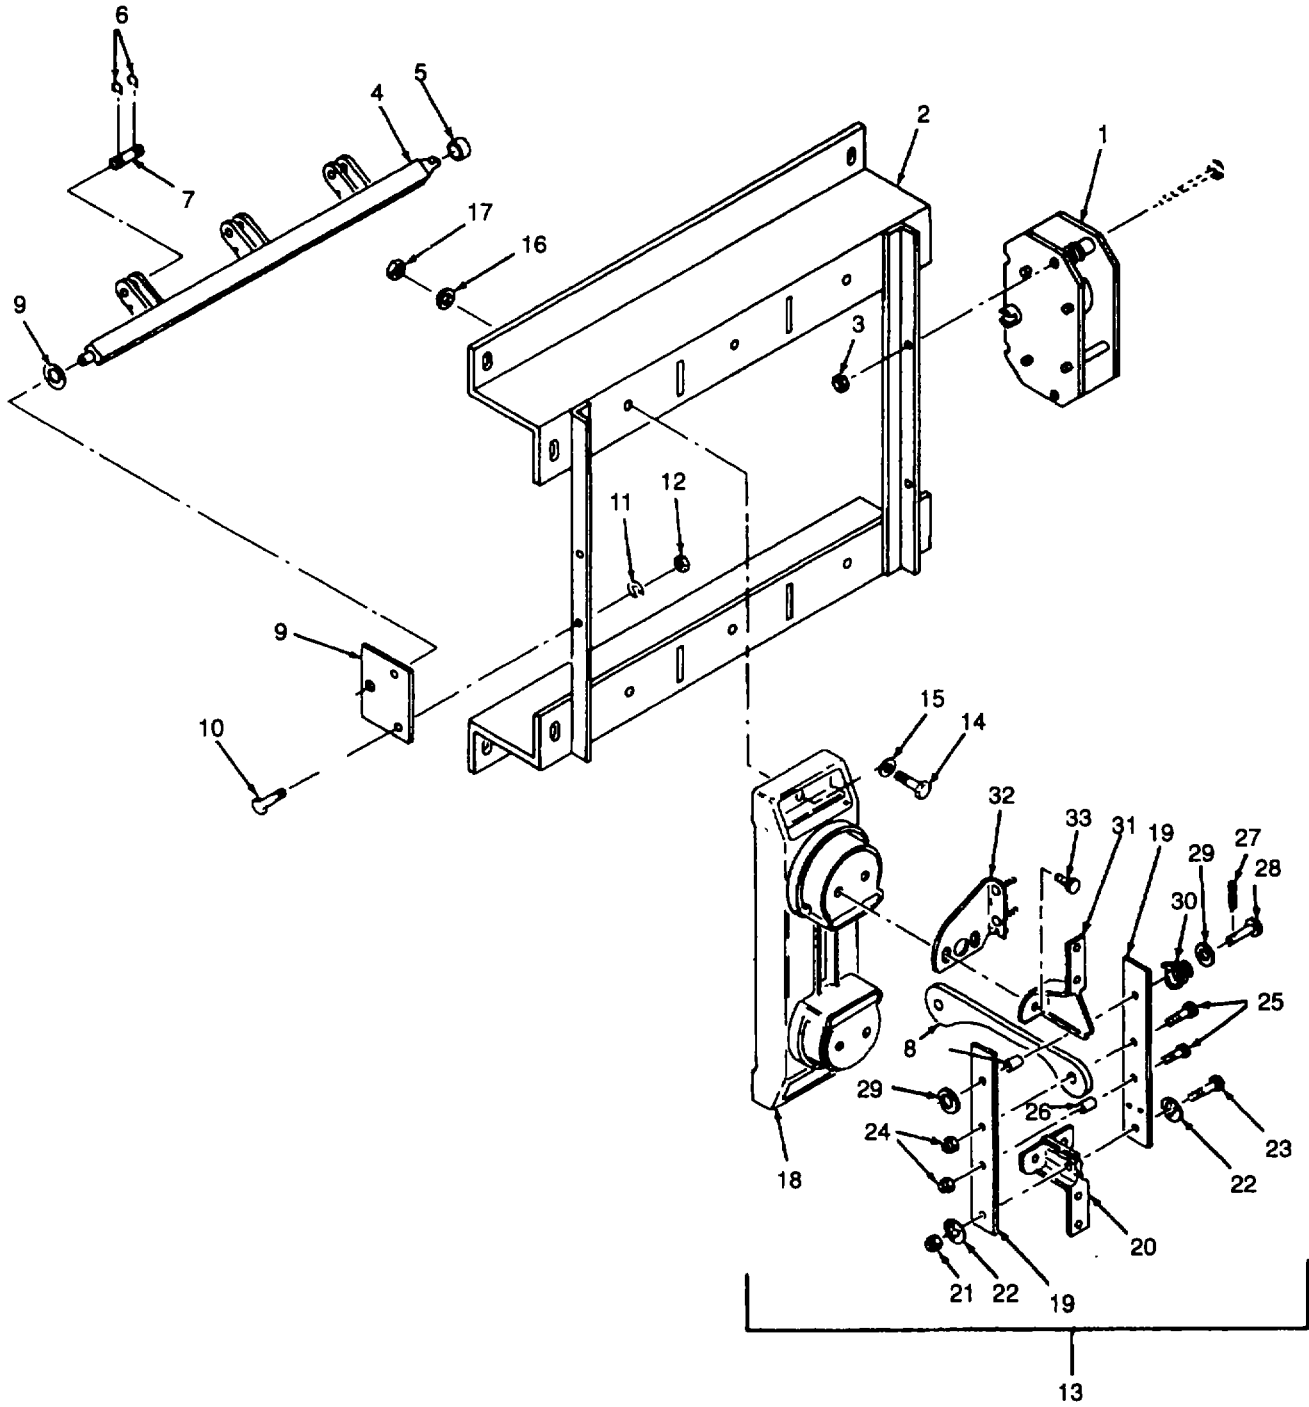

Figure 5-35. Main Disconnect Switch S120, Exploded View (Sheet 1 of 2)
- (1) Remove retaining rings (6, Figure 5-35) and pins (7) to detach connecting links (8) from the shaft assembly (4). Discard retaining rings (6). Remove bearing plate (9) from frame (2), if needed, by removing hexagon head bolt (10), lockwashers (11), and hexagonal nuts (12).
- (2) Remove three switch blade assemblies (13) from frame (2) by removing hexagon head bolts (14) and flat washers (15) from top and bottom of the switch bases (18) and removing lockwashers (16) and hexagonal nuts (17) from behind the frames.
- (3) Detach blades (19) from hinges (20) by removing elastic stop nut (21), pivot spring washers (22) and hexagon head bolts (23).
- (4) Separate the two blades (19) and the connecting links (8) by removing hexagonal nuts (24), hexagonal head bolts (25), and spacers (26). Remove cotter pin (27) from rivet (28) and remove flat washers (29) and spring (30).
- (5) Detach jaw (31), arc chute support (32), and hinge (20) from base (18) by removing hexagon head bolts (33).